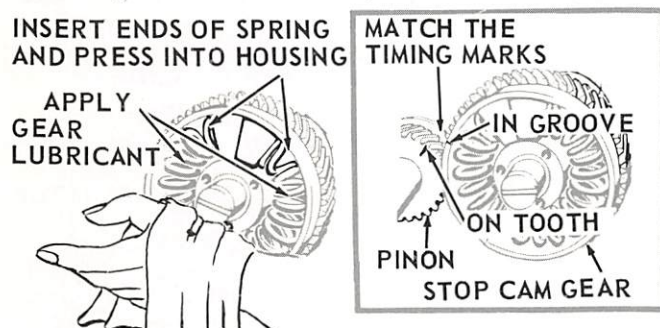

Fig. 50. New Spring Installed
2. Observe timing marks on matched tooth and groove on pinion and stop cam gear, as shown in inset in Fig. 50, then loosen eccentric stud set screw.
- Insert ends of new spring in position shown in Fig. 50, first. Cover the spring with a cloth and press entire spring into housing with palm of hand. Fig. 50 shows new spring installed.
- Replace stop cam gear on machine. Match the groove, bearing a timing mark, on stop cam gear with the gear tooth, bearing a timing mark, on pinon, as shown in inset Fig. 50.